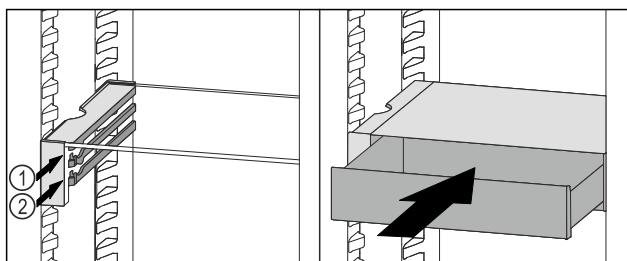

Fig. 144
- ▶ Place the VarioSafe drawer behind the stoppers on desired rib Fig. 144 (1) or Fig. 144 (2).